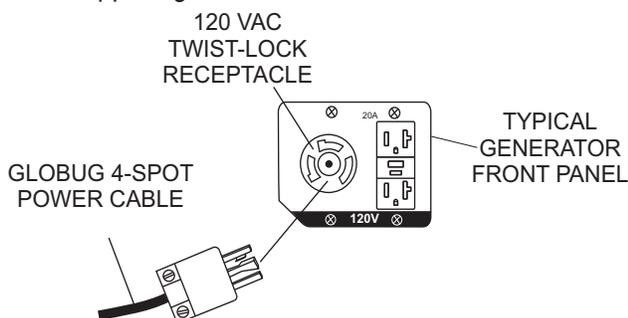

Figure 20. 120 VAC Receptacle
2. The GloBug has a power requirement of 120 VAC, 60 Hz @ 18 amps. Connect the GloBug 4-Spot AC power cord to the 120 VAC twist-lock receptacle (Figure 20) on the the supplied generator.